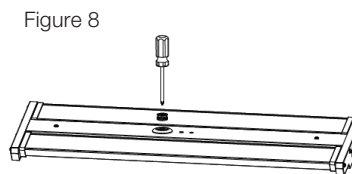

Figure 8
**STEP 1:** Use a screwdriver to remove the 1/2 plug from the sensor (Figure 8).